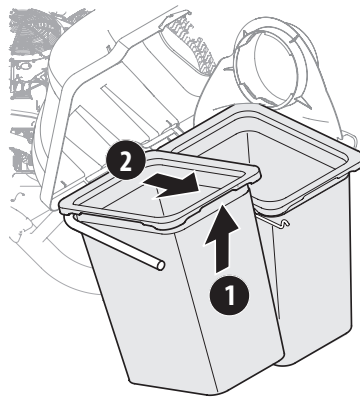

Figure 33
3. Remove both bag assemblies from the hanger rails by lifting the back edge up first, and then sliding the front edge out and up until it is clear of the frame. See Figure 33.